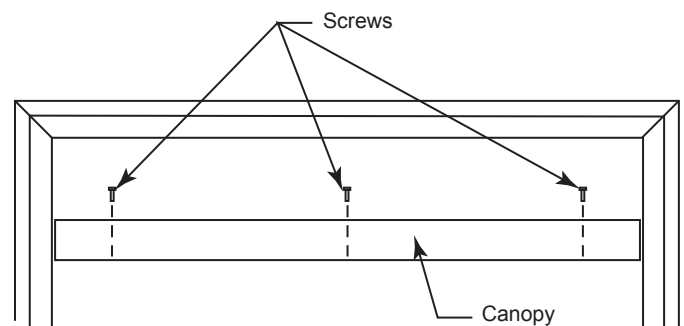

**Figure 17 -
1. Remove bottom louver. *Figure 17*
2. Removing fireplace screen frame panel by pushing screen frame panel up and out. *Figure 17*